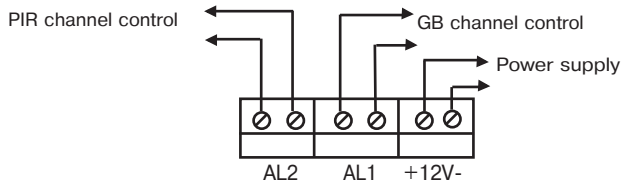

Figure 4
- Fulfill connections in accordance with Figure 4;